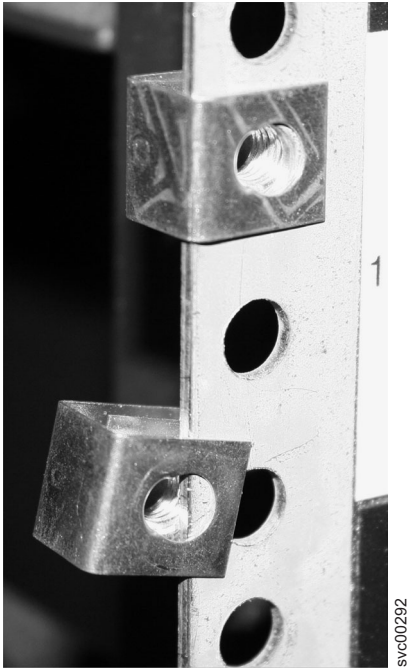

Figure 6. Positioning the clips
2. Position the four "C" clips in the rack's mounting bar, as shown in Figure 6 on page 14.